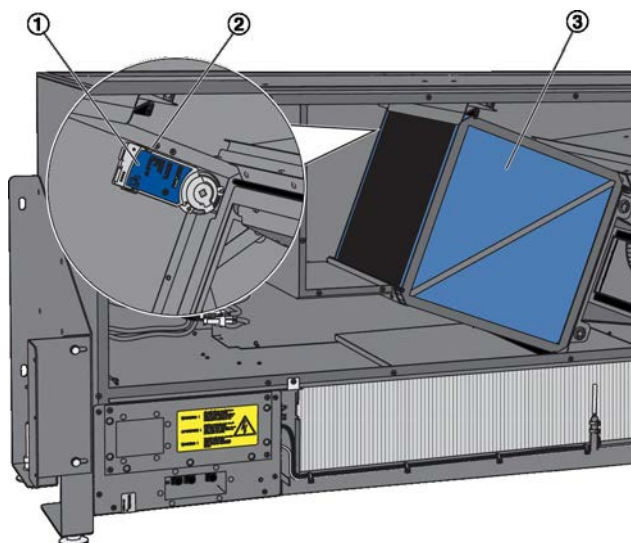

Fig. 31: Replacing an actuator
- ▶ Remove the recuperative heat exchanger (Fig. 31/3).
- ▶ Remove the plug of the connecting cable from the actuator (Fig. 31/1).
- ▶ Remove the actuator from the retaining bracket (Fig. 31/2) and from drive shaft of the bypass damper.